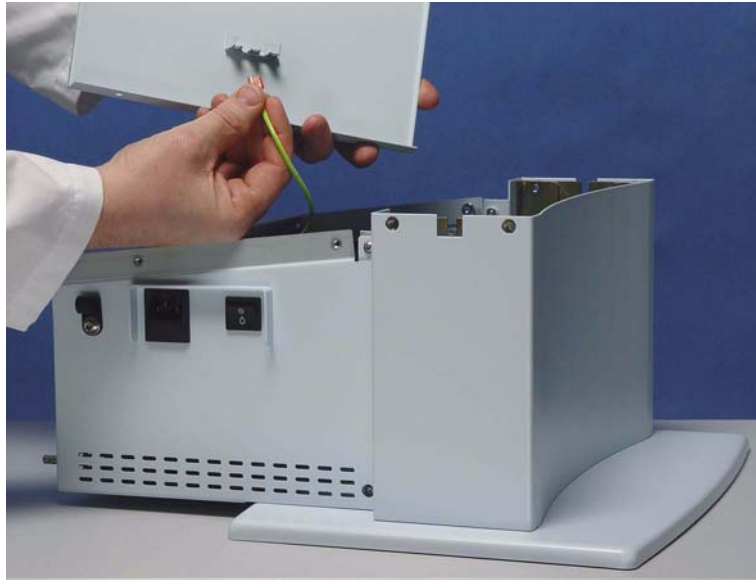

Figure 11-7. Removing the earth connector from the top panel
2. Remove the top panel, pulling the earth connector free as you do so. (Figure 11-7.)